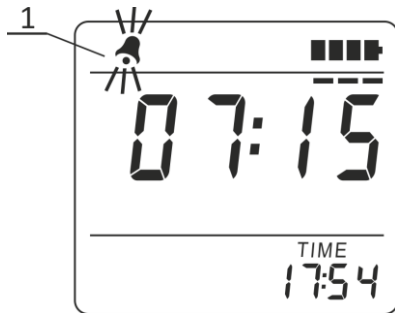

Figure 2.21 – LCD of the radiometer
As soon as the alarm clock triggering time is programmed, the alarm clock symbol (1) starts blinking on the LCD of the radiometer (Figure 2.21).